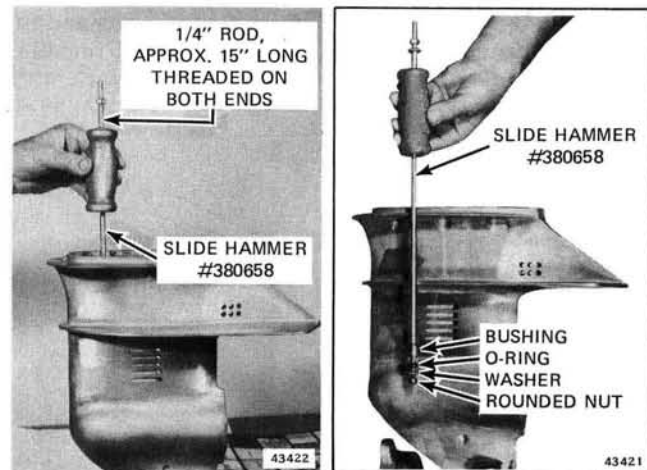

Figure 6-30. Pulling Shift Rod Bushing, O-Ring and Washer
10. If shift rod bushing and "O" ring are worn, use slide hammer (Special Tool #380658) and a 1/4" diameter by 15" (380 mm) long rod threaded on both ends. Use a nut with corners ground to clear casting. Remove shift rod washer, "O" ring and bushing. See Figure 6-30.